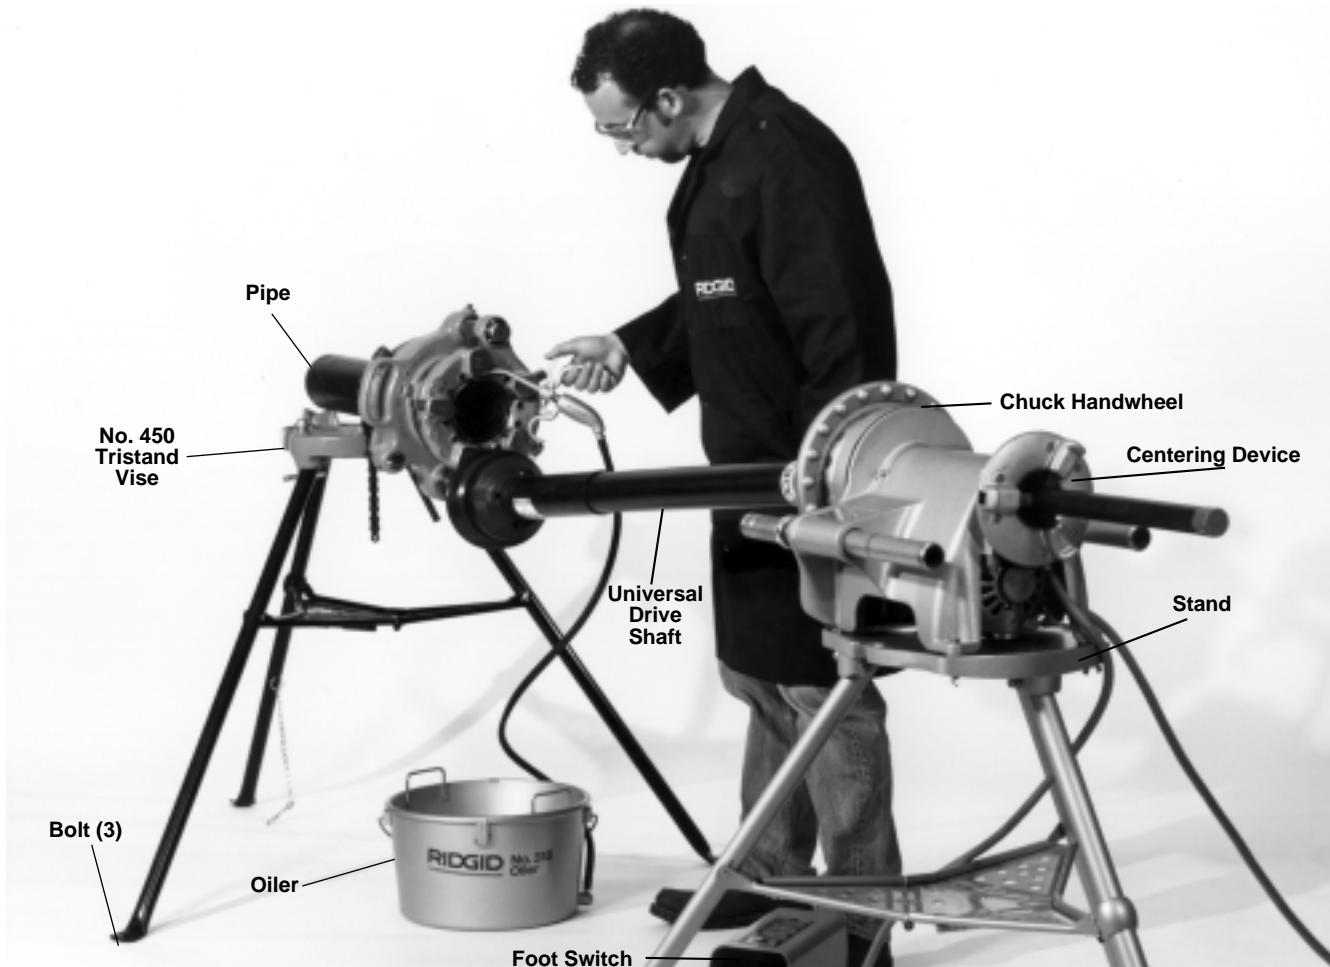

Figure 19 – Threading with Nos. 141 and 161 Geared Threaders using No. 840A Universal Drive Shaft
3. Loosen 2 set screws (*Figure 19*) and remove universal drive shaft from threader.